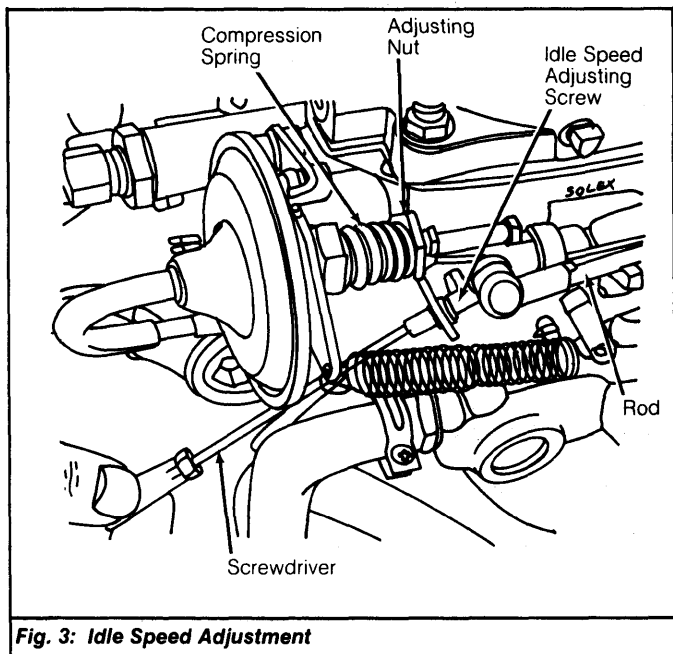

Fig. 3: Idle Speed Adjustment
- 3) Adjust idle speed to specifications by means of the idle speed adjusting screw. Check if idle speed stop occurs on throttle valve lever and not on vacuum governor. Loosen spring of vacuum governor, if required, by setting adjusting nut at governor. See Fig. 3.